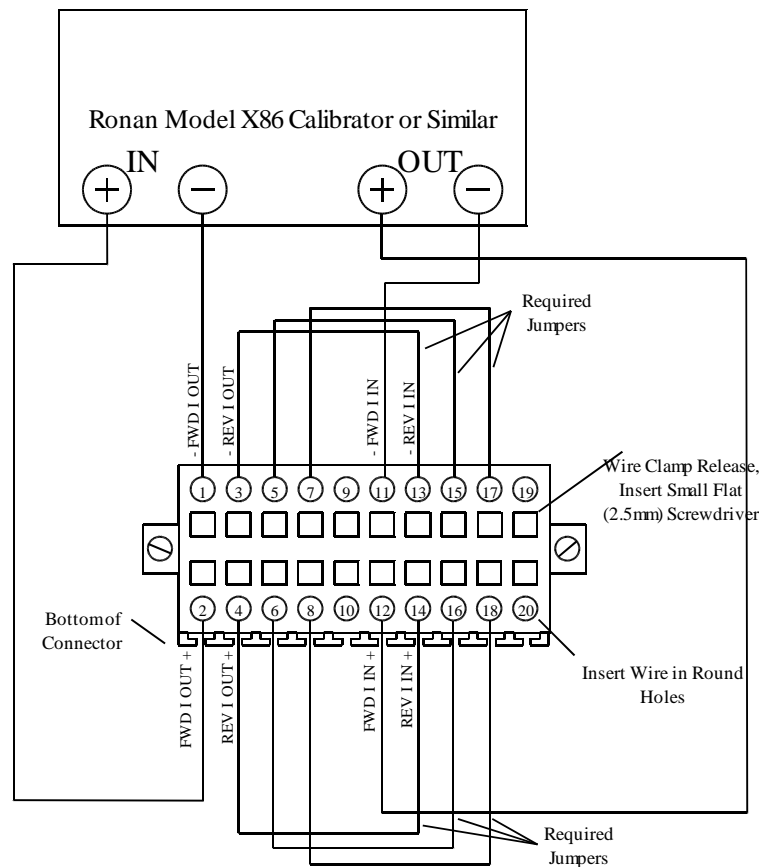

Figure 7.2: Analog Calibration Connections - Forward Current Channel
2. Install six jumpers as shown in **Figure 7.2** below. From 3 to 13, 4 to 14, 5 to 15, 6 to 16, 7 to 17 and 8 to 18. The jumpers are required for accurate calibration.